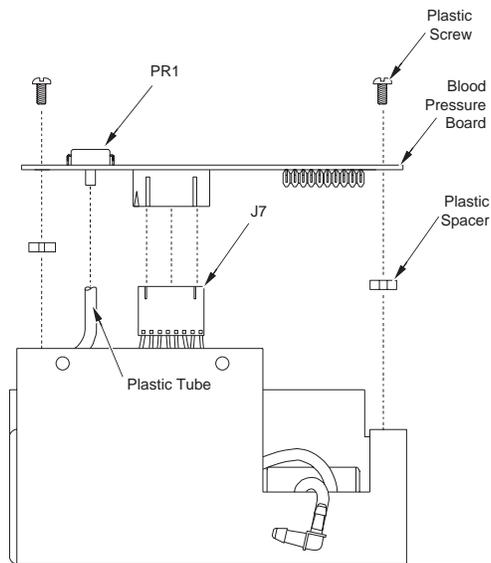

Figure 7-9: Blood Pressure Board Replacement
5. Label and disconnect (at the elbow) the plastic hose that extends to the Quick-Connect fitting on the display panel (see Figure 7-9).